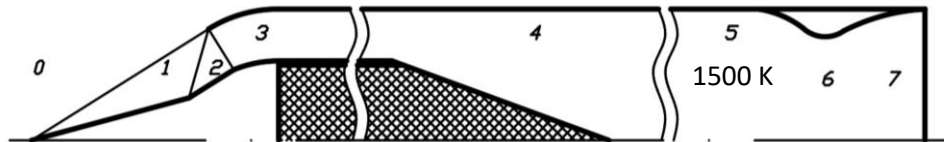

Fig. 4 Flow in the Ramjet motor
3. Take results from PART 1 at the exit of the diffuser (Fig. 4, point 3). Calculate the change of the flow properties between points 4 and 5 due to the flow area change. Assume the heat addition, which raises the temperature of the flow in zone 5 by $T=1500\text{K}$ (point 5) [3]. Using the nozzle inlet diameter (point 5) equal to the diffuser exit diameter $D_{\text{inlet}} = D_{\text{diff}}$, calculate the flow properties in the nozzle inlet with the assumption of the isentropic processes.